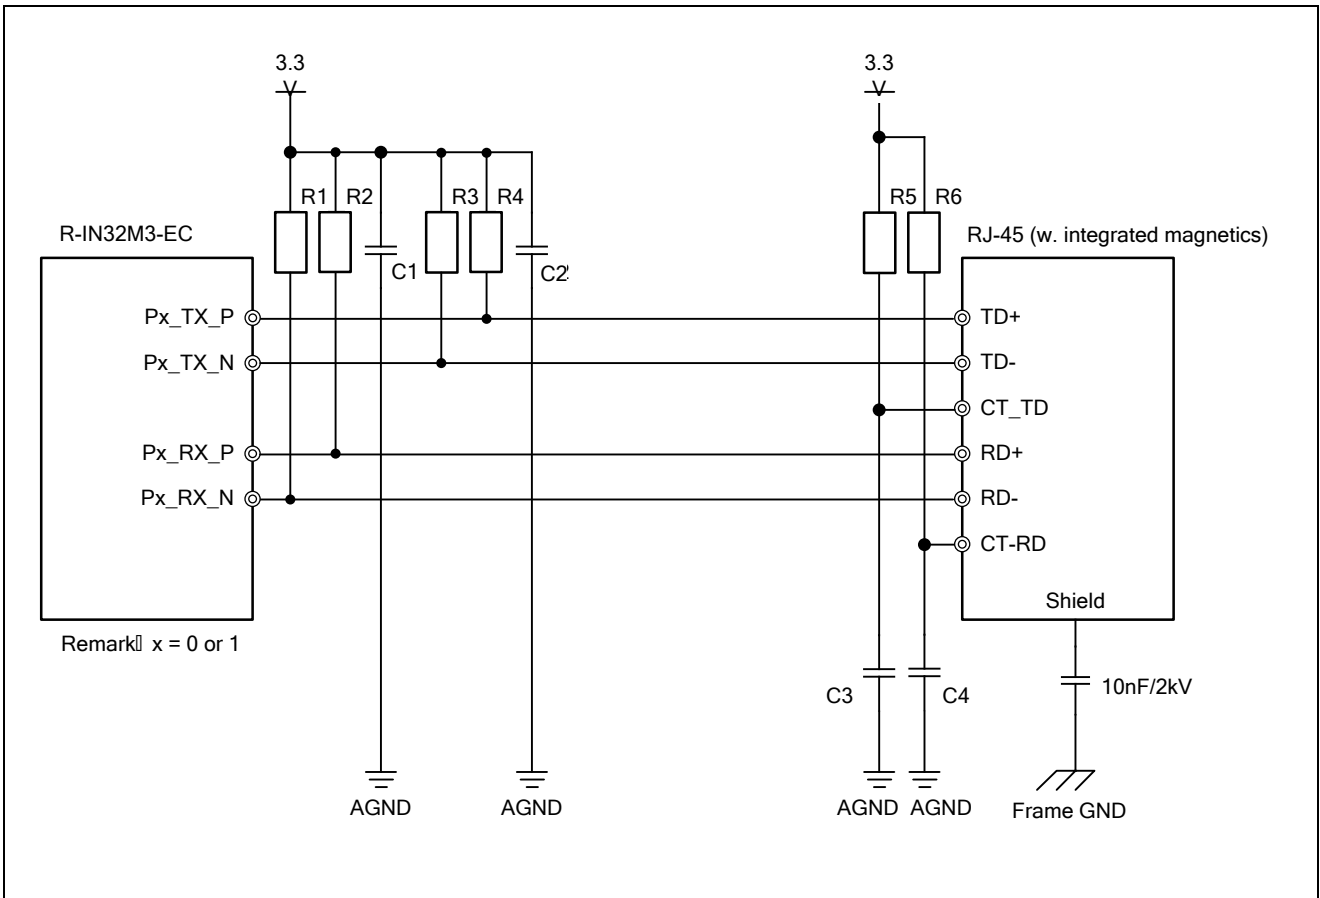

Figure 7.2 Connection example R-IN32M3-EC and RJ-45 connector(pulse transformer built-in)
- Preferable is a large edge gap at differential pairs ('g' in Figure 7.2). An empty space of five times of the trace width between differential pair and other signals, planes or components is recommended.